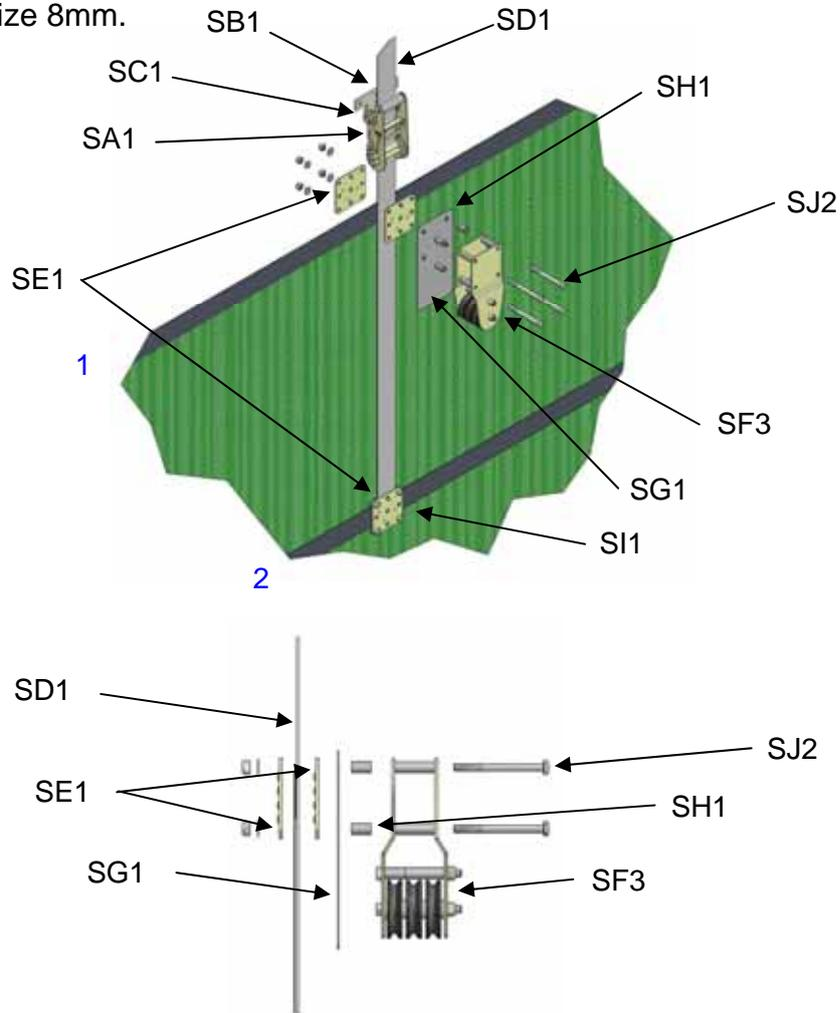

Figure 29
8.6 Replacing Section 5.2: Fix the Ratchet (SA1) to the Ratchet Bracket (SB1) with the M12 x 90mm bolt (SC1) provided. The standard fitting of the ratchet bracket is depicted in Figure 29, but it can be reversed if vertical mounting space is limited. Fit assembly to the building with three fixings, minimum size 8mm.
8.7 Replacing Section 5.3: Referring to Figure 29. Fix vertical webbing strap (SD1) to second strap down on the door using the Clamp Plates (SE1) and M8 x 20 Bolts (S11) provided. Repeat process on top strap but use the M8 x 90 Bolts supplied (SJ2) and include the Wire Support Assembly (SF3), Spacers (SH1) and Wire Support Protection Pad (SG1). Feed webbing through ratchet and ensuring a minimum of 150mm of webbing is around the ratchet barrel operate handle to lift the door. Continue to adjust ratchet until top of door is level.